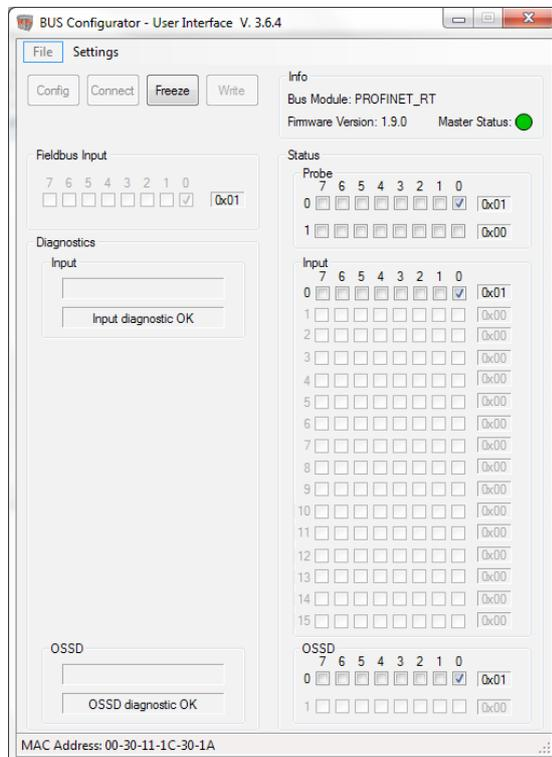

Figure 4: Monitoring, BUS Configurator
4. Check the status of the outputs on the MSC using the *MONITOR* function (Figure 4)